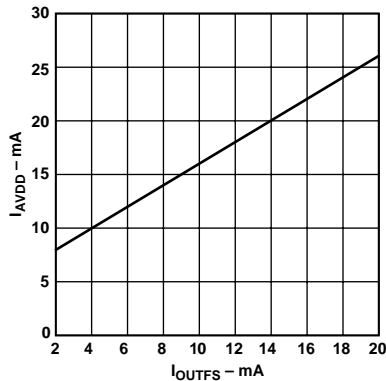

Figure 19. I_{AVDD} vs. I_{OUTFS}
The power dissipation, P_D , of the AD9708 is dependent on several factors, including: (1) $AVDD$ and $DVDD$, the power supply voltages; (2) I_{OUTFS} , the full-scale current output; (3) f_{CLOCK} , the update rate; (4) and the reconstructed digital input waveform. The power dissipation is directly proportional to the analog supply current, I_{AVDD} , and the digital supply current, I_{DVDD} . I_{AVDD} is directly proportional to I_{OUTFS} , as shown in Figure 19, and is insensitive to f_{CLOCK} .